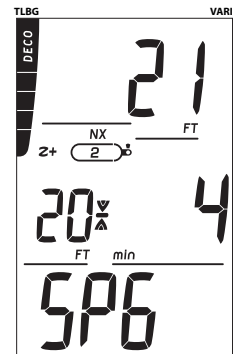

Fig. 63 - DECO STOP MAIN
**DECO STOP MAIN**, information includes (Fig. 63):